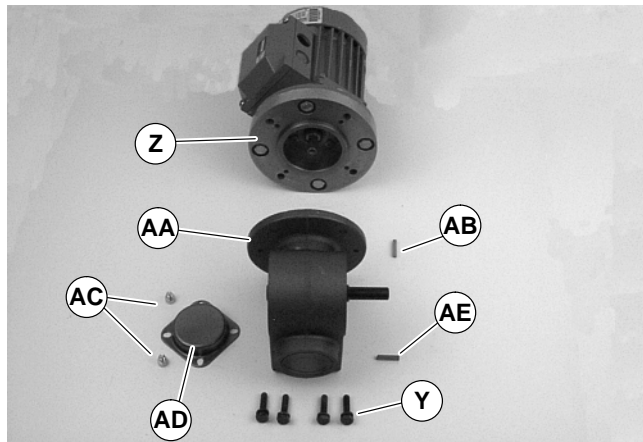

Figure 16
5. Remove four screws (Y of Figure 16). Detach motor (Z) from gear reducer (AA). Retain motor output shaft key (AB).
11. With key (AB of Figure 16) in keyway, slide motor (Z) and gear reducer (AA) together. Install screws (Y) and tighten.